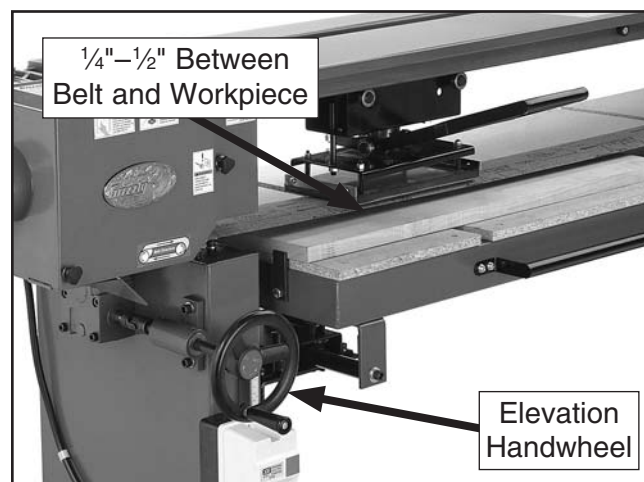

Figure 33. Vertical table movement.
2. Turn the table elevation handwheel to raise the table until the workpiece is $\frac{1}{4}$ "– $\frac{1}{2}$ " below the sanding belt (**Figure 33**).